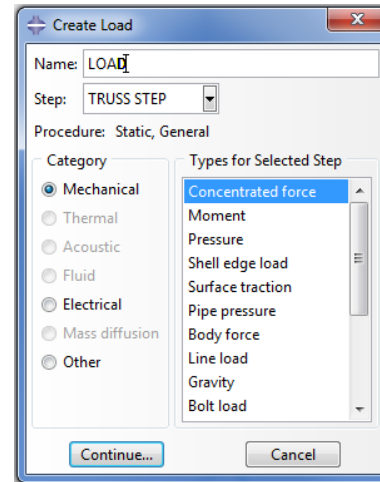

Figure 22b. Create Load Dialog Box (LOAD)
- Create a name for the load called **LOAD** and ensure that **TRUSS STEP** is selected for the **Step**. Choose **Mechanical** under the **Category** option and **Concentrated force** under the **Types** for **Selected Step** option. The **Create Load** dialog box should look identical to that in Figure 22b.